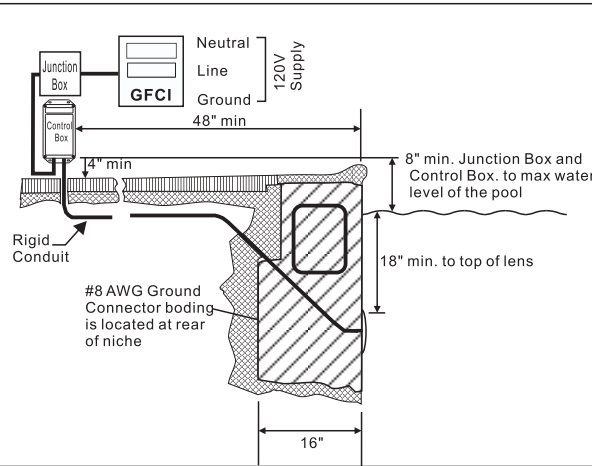

Figure 2
2. Drill 1 hole on the flat place you intend to mount the pool light, use 1 expansion screw to fix the light. treat the light with silicon around the light. ( you may need to cut off the bolt that is for wet niche install.) See Figure 2